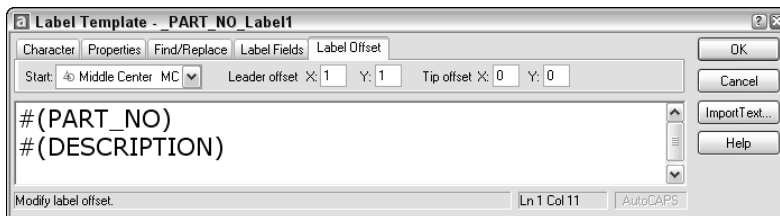

Figure 20-17: The Label Offset tab of the Label Template dialog box
6. Click the Label Offset tab, shown in Figure 20-17. This tab defines the placement of the label and the leader that connects the label with the object. In the Start drop-down list, choose a justification. This defines where on the object AutoCAD places the tip of the leader.